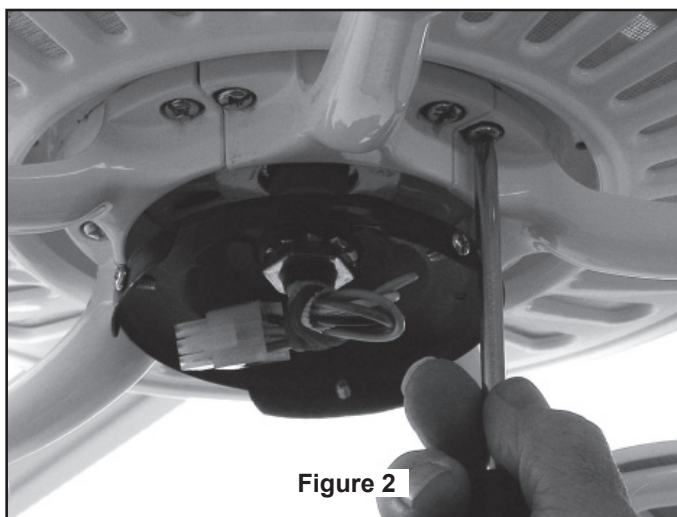

Figure 2
4. Attach Blade Holders to the Motor Hub using the Screws w/Lock washers as shown in Figure 2.
5. Make sure the screws with lock washers securing the Blade Holders to the Motor Hub are tight and that the Blade Holders are properly seated. (Figure 2)
2. Assemble the Switch Cup Assembly onto the Housing Adapter with three screws. (Figure 2)